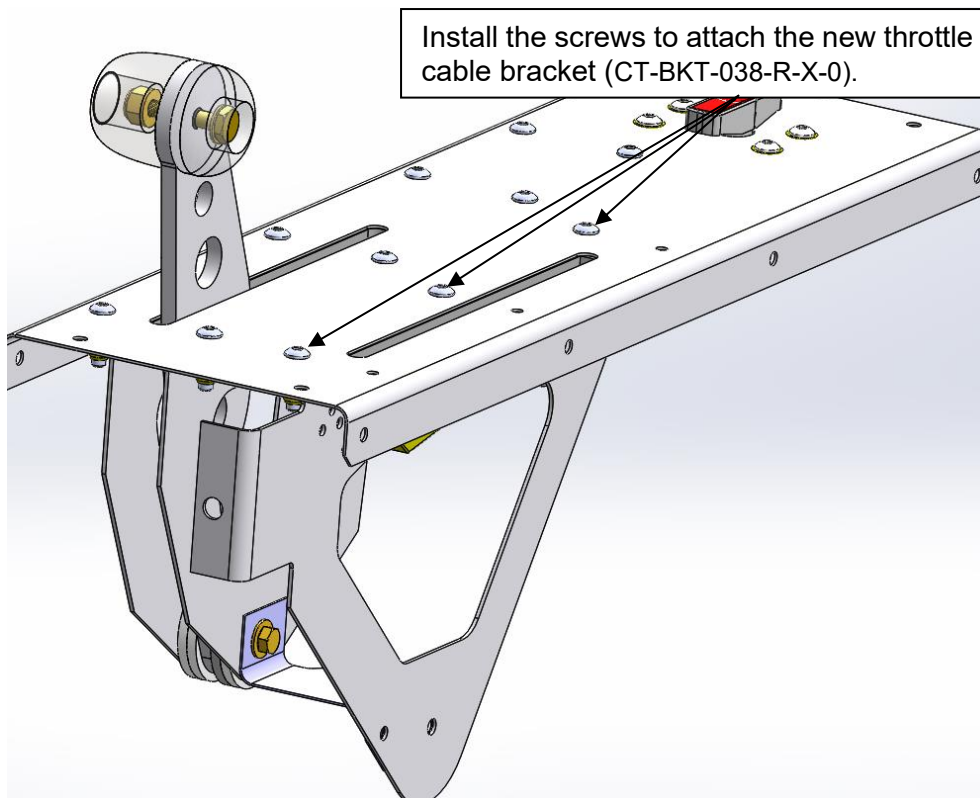

Figure 21
Step 2: Install the screws so that the new bracket is attached to the throttle quadrant upper plate, as see in Figure 21.